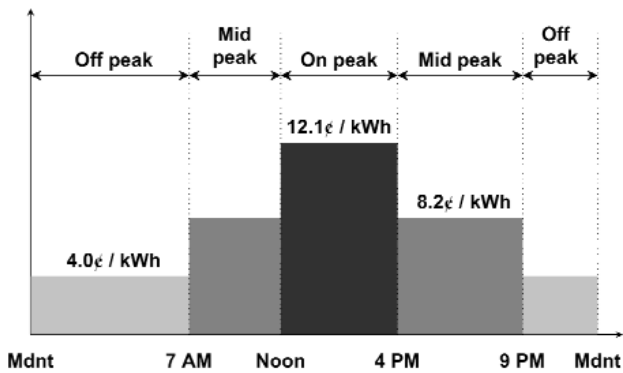

FIGURE 4.24 Example of time-of-use rate.
*Time-of-use* or *time-of-day* rates vary the cost of electricity at each hour of the day as illustrated in Figure 4.24. The highest rates are typically from noon through 3:00 PM, corresponding with high electricity use for cooling. Many commercial electricity rates incorporate some degree of time-of-use billing. The number of time-of-use periods can vary from two (on-peak and off-peak) up to five.